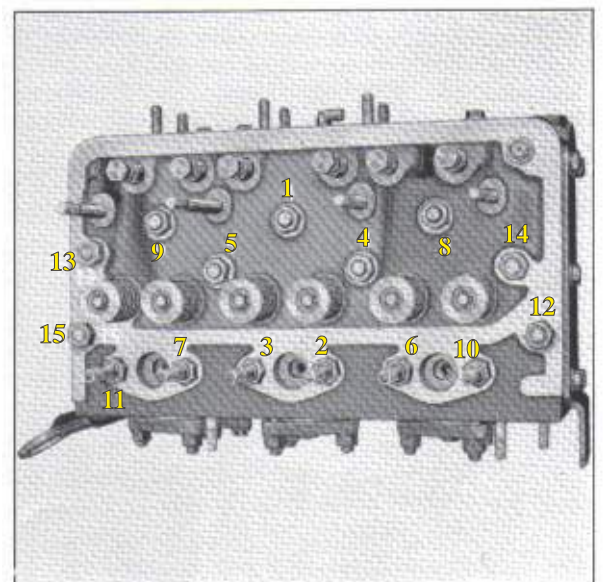

Fig. 2
15. Unscrew the fifteen nuts retaining the cylinder head to the cylinder block in a sequence opposite to that shown on Fig. 2, using the special deep socket (Tool No. T-695).
4. Refit the cylinder head nuts and tighten in the correct order as shown on Fig. 2, to a torque of 55 to 60 lb. ft.
16. Run the engine until its normal working temperature is reached, remove the rocker shaft and tighten the cylinder head nuts down to a torque of 55 to 60 lb. ft., using the sequence shown in Fig. 2.